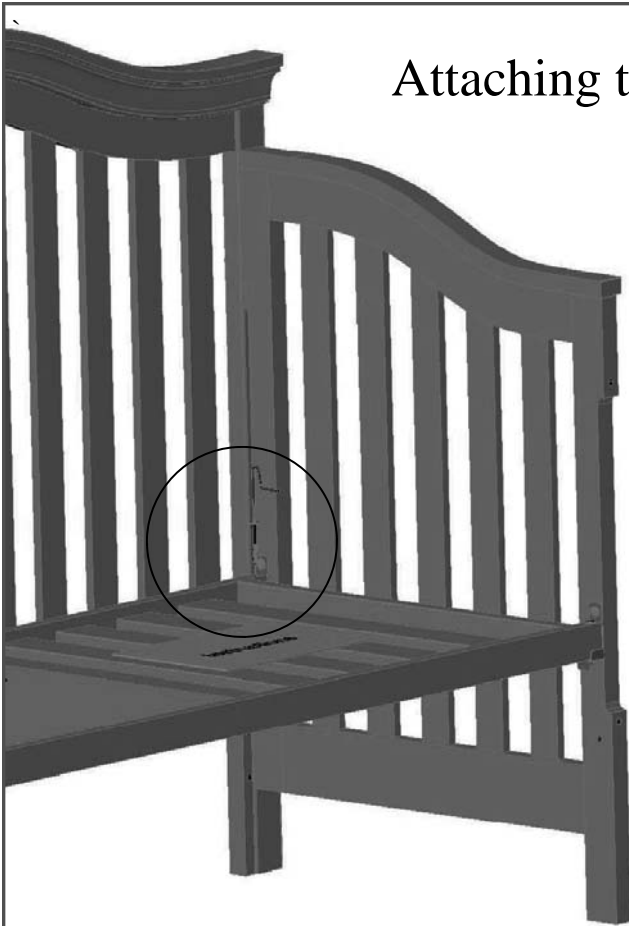

Figure 7.
- After the Mattress Platform is in place, use the (4) 2 3/8" connector bolts to attach the Mattress Platform to the support brackets. Insert each bolt in place and start the bolt into the bracket threads. See Figure 7.